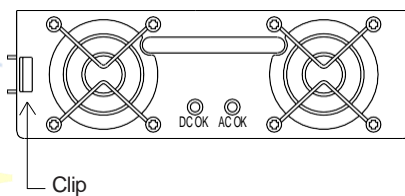

Figure 3-6: Location of the "clip" on RCP-1000 unit
- ⊗Pull out the RCP-1000 unit: press the clip shown in Figure 3-6 and pull the unit out.